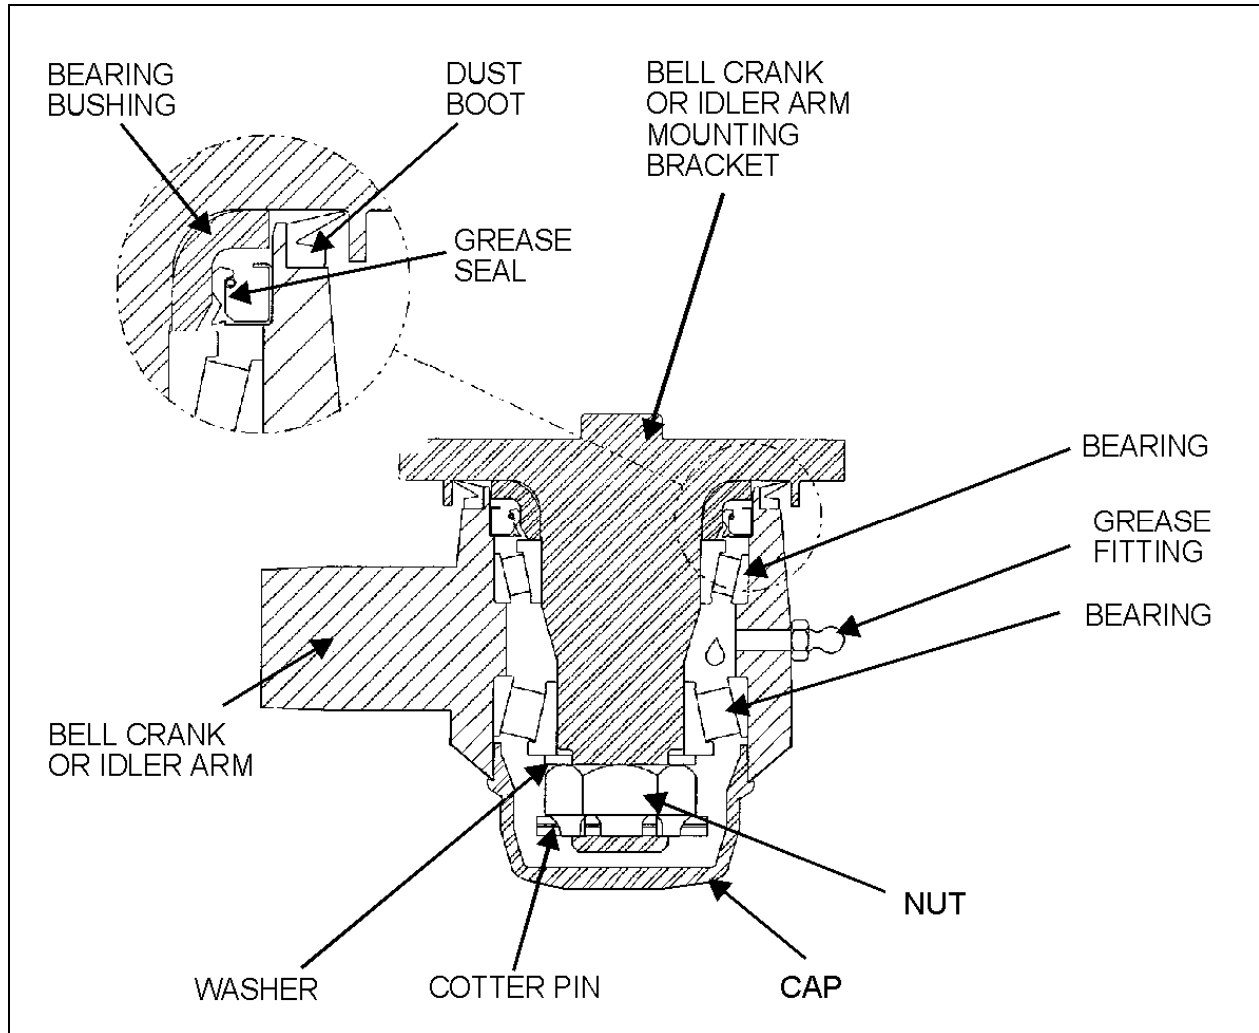

FIGURE 8: BELL CRANK AND IDLER ARM BALL JOINT
2. Remove the cap (Fig. 8).
3. Remove the cotter pin, nut and tongue washer. Remove bearings, grease seal, bearing bushing and the bell crank or idler arm from its mounting bracket stud (Fig. 8).
2. Install bearing and grease seal in bell crank or idler arm eye (Fig. 8).
Note : Install grease seal according to figure 8. Grease must be able to exit the bell crank or idler arm mechanism. For grease seal installation use tool Prévost # 110683.
3. Install bell crank or idler arm on its mounting bracket stud (Fig. 8).
7. Check for loose bearings by applying an up and down load on bell crank or idler lever (Fig. 8). The lever is not supposed to move in the vertical axis direction.
Note: Bend cotter pin around the nut (Fig. 8). Do not bend the cotter pin in the direction of the cap, because it may interfere with the cap.